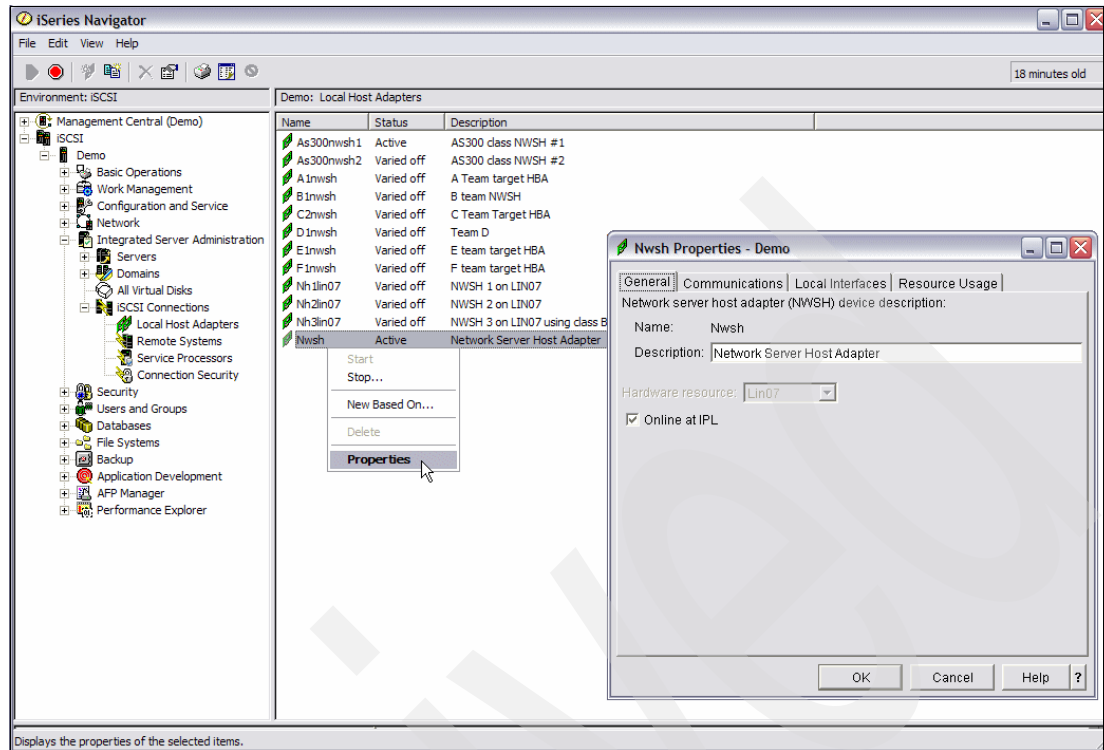

Figure 6-8 Properties NWSH object
- b. Click **Local Host Adapter** and right-click the **Network Server Host Adapter** at the right pane, which you want to display/change, and select **Properties** (Figure 6-8 on page 160).